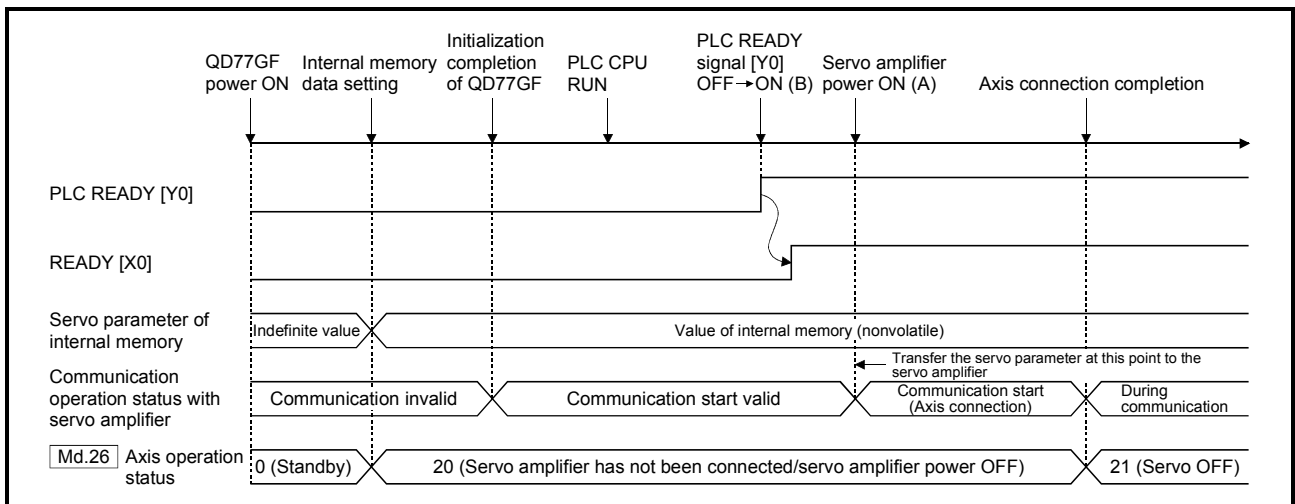

Fig. 7.2 When the servo amplifier had started after the PLC READY signal [Y0] is turned OFF to ON
(2) When the servo amplifier's power supply is turned ON after the PLC READY signal [Y0] is turned OFF to ON (Fig. 7.2 (B)).
Communication start timing to the servo amplifier: When the servo amplifier had started (Fig. 7.2 (A)).